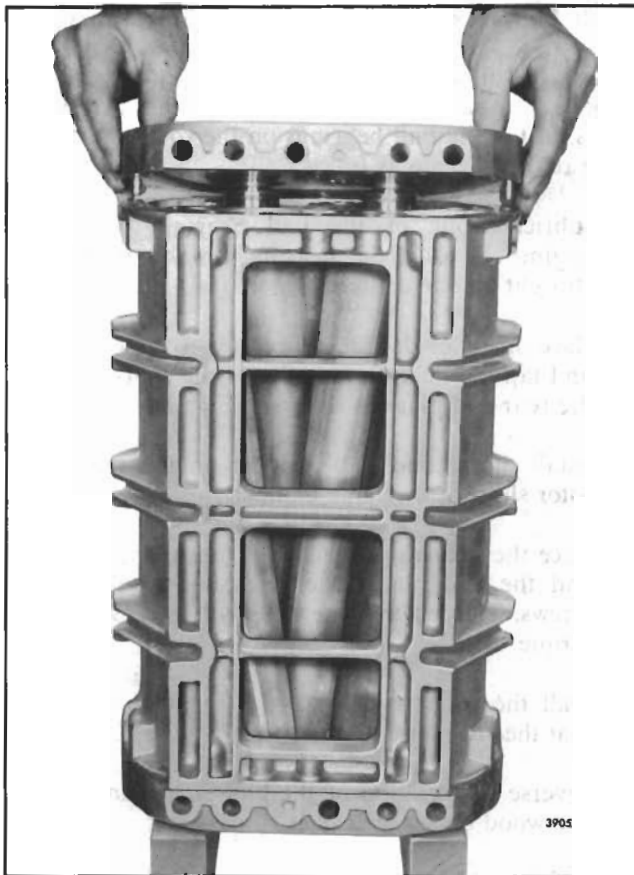

Fig. 15 - Installing Rear End Plate on Blower Rotors and Housing
f. Lower the end plate straight over the rotor shafts until the dowel pins in the end plate contact the blower housing (Fig. 15). Then carefully work the dowel pins into the dowel pin holes in the housing and the oil seal rings into the collars. Push the end plate tight against the housing. If necessary, tap the end plate lightly with a plastic hammer.